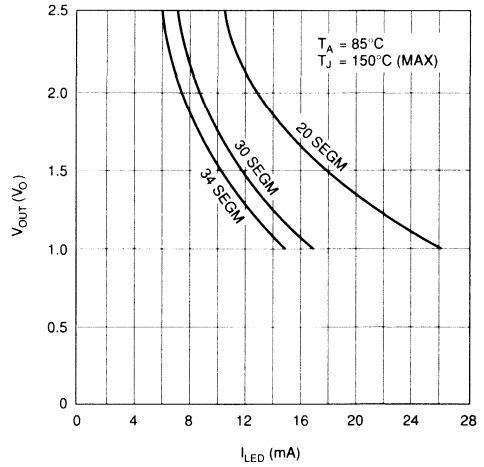

Figure 8.
**Note 4:** The  $V_{OUT}$  voltage should be regulated by the user. See Figures 8 and 9 for allowable  $V_{OUT}$  vs.  $I_{OUT}$  operation.